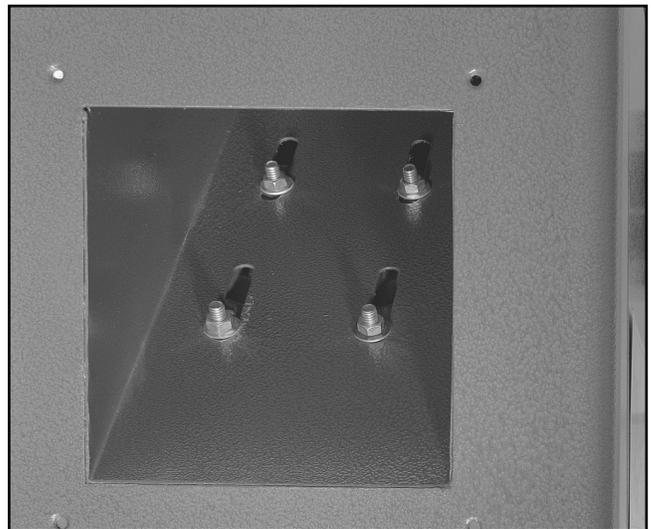

Figure 7. Motor mounts inside dust chute.
1. Loosen the motor mount bolts located inside the dust chute and slide the motor up until you can attach the V-Belt to the pulleys. See **Figure 7.**